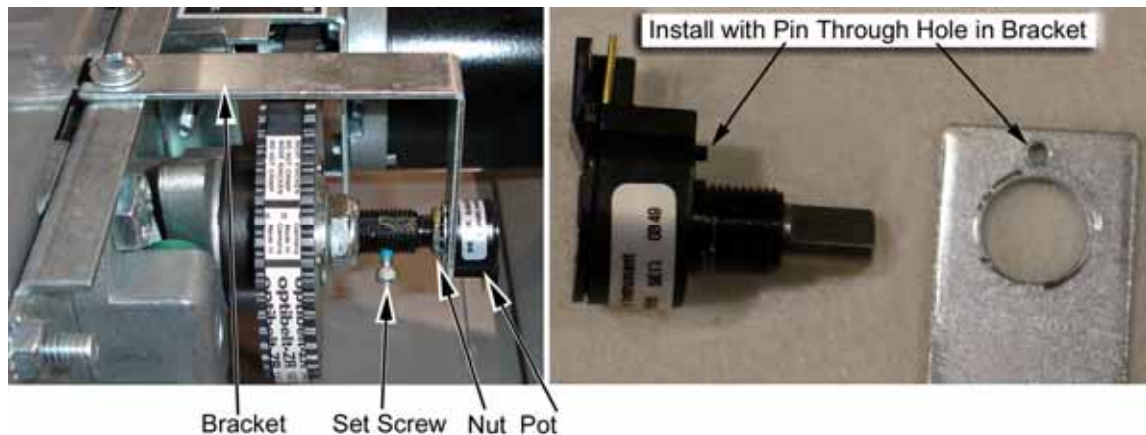

Figure 23. Replacing the 5 K Ω Steering Pot
To replace a pot, refer to Figure 23 and perform the following steps:
3. Reverse these steps to install the new pot. Install the pot with the plastic pin through the small hole in the bracket, as shown in Figure 23 below.
Refer to Figure 23 above, and Figure 24, and perform the following steps to remove the force-feedback belt for repair. Always replace the belt if it looks cracked or worn.
1. Using a 7/64 Allan wrench, loosen the set screw from the steering column and remove the bracket with the pot attached (see Figure 23).